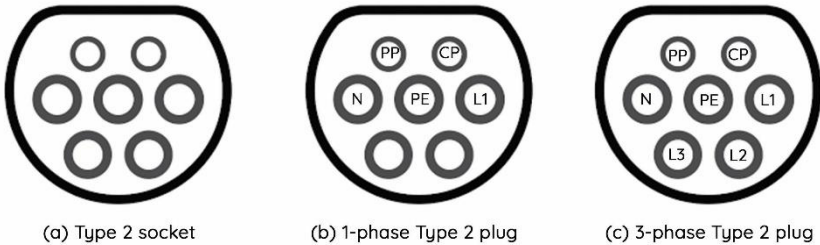

Fig 3-2 Schematic diagram of Type 2 charging socket and plug
- The charging connector of M3B EN-series products meet **IEC 62196-2**, type 2 (Schematic diagram shown as Fig 3-2).